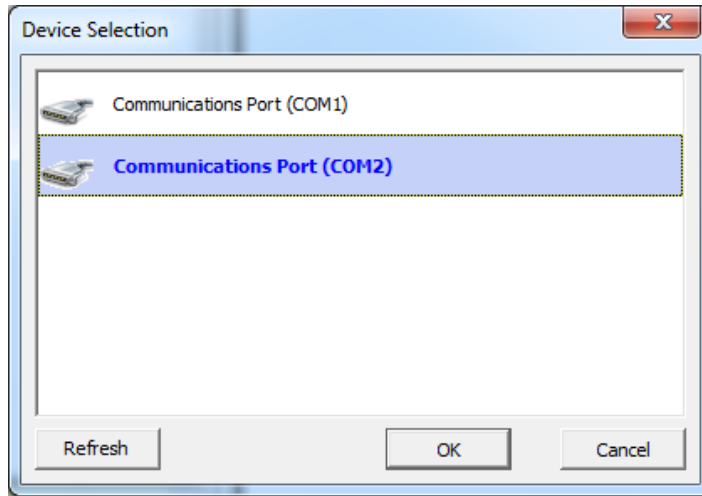

Figure 3-16: Device Selection Window
Step 7: The Device Selection window appears (Figure 3-16). Select **Communication Port (COM2)** and click **OK**.